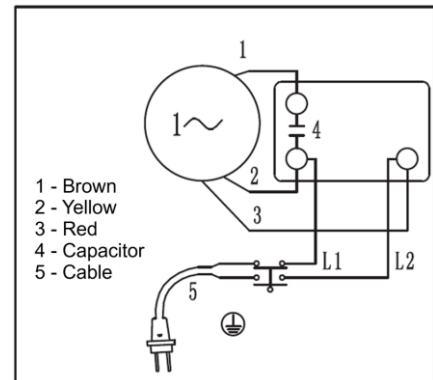

Fig. 3
- Connect the electrical cables to the motor following the wiring diagram shown in Fig. 3.